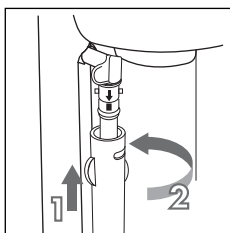

fig. 25
7. Replace the milk frother by inserting it and rotating anticlockwise (fig. 25).